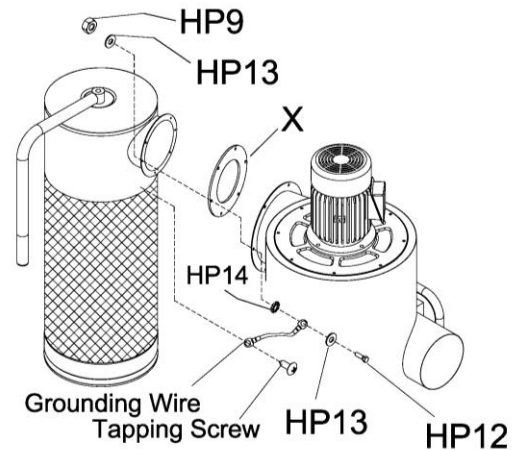

Figure 9
10. Place gasket (X) between canister filter and main housing. Install canister filter onto main housing using the hex. cap screws (HP12), washer (HP13), and nuts (HP9). You must attach the canister filter ground wire to the nearest connection point as shown in Figure 9.
The grounding wire is pre-attached to the canister filter. When installing the canister filter onto the main housing, you must connect the ground wire to the main housing as shown in Figure 9. Be sure and use the star washer (HP14) when making this connection. Position the star washer (HP14), grounding wire, and flat washer (HP13) as shown in Figure 9.